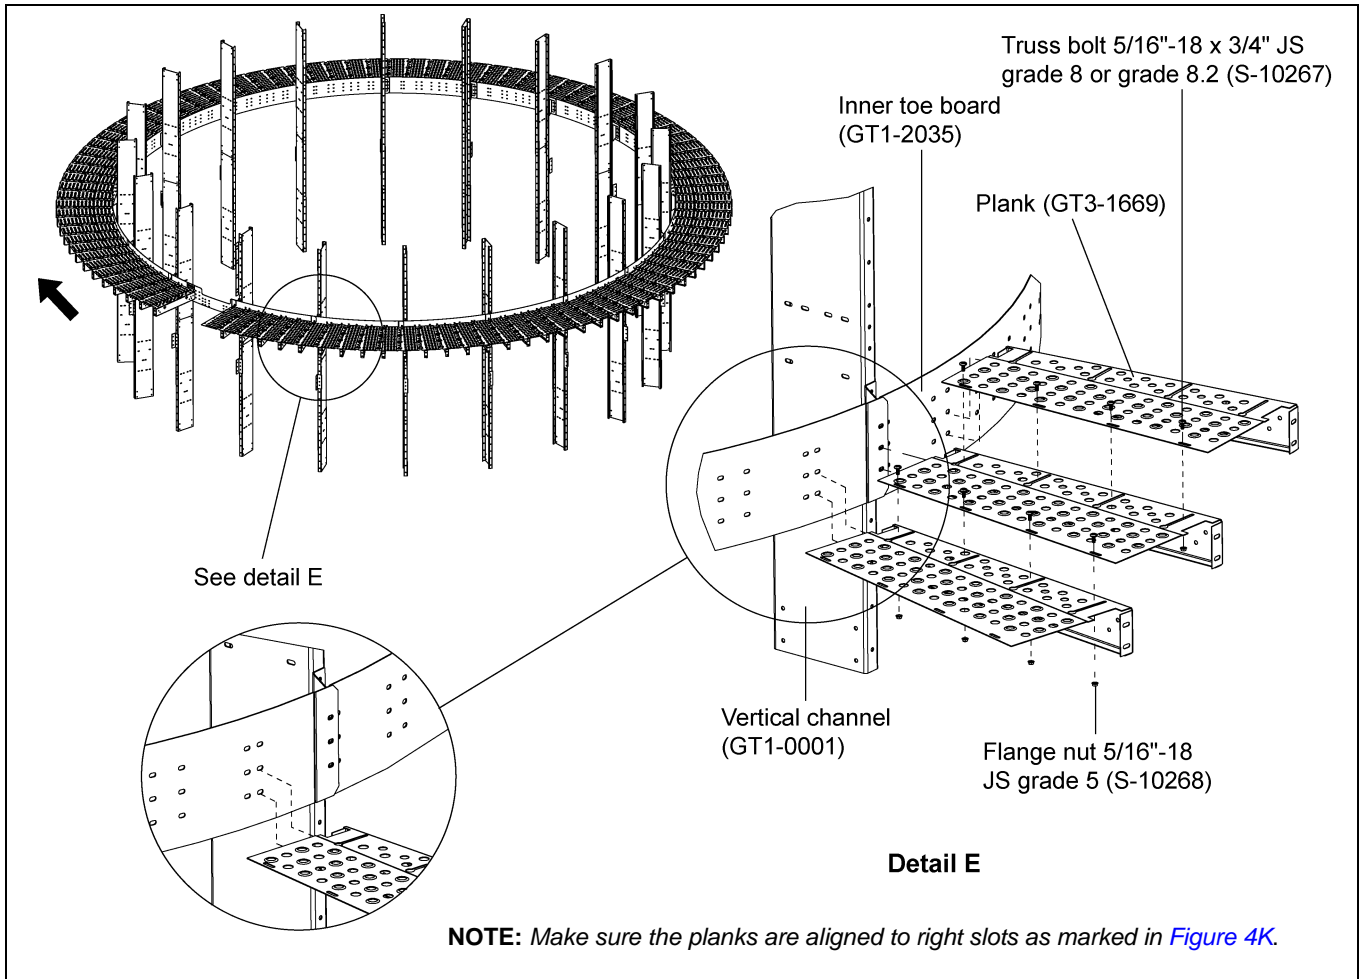

Figure 4J
1. Install planks (GT3-1669) around the dryer on inner toe board (GT1-2035) starting from ladder opening toe board (GT1-2089) as shown by arrow in the Figure 4J.
2. Planks (GT3-1669) are installed to bottom two (2) holes of the inner toe board (GT1-2035) using 3/8"-16 x 1" JS grade 8 or grade 8.2 bolts (S-7485) and 3/8"-16 ZN grade 5 nuts (S-968). (See Figure 4J.)